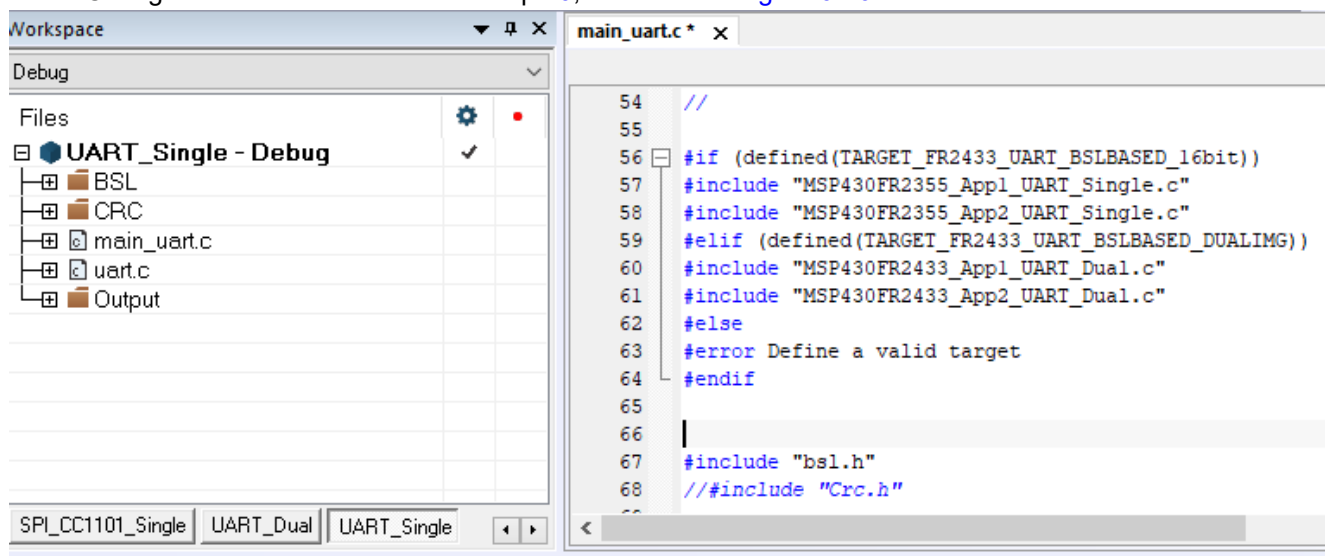

Figure 6-10. Change the image name in the host
- a. Change the .c file's name used in step 10, as shown in Figure 6-10